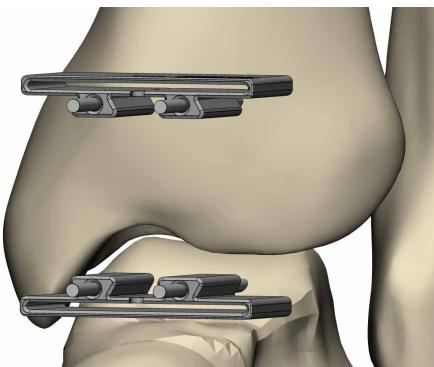

Fig. 4.3
**4.3.** Leaving the k-wires in place, slide the distractor off the flat cut guides. Under power, perform the resections using an oscillating saw. (fig. 4.3).